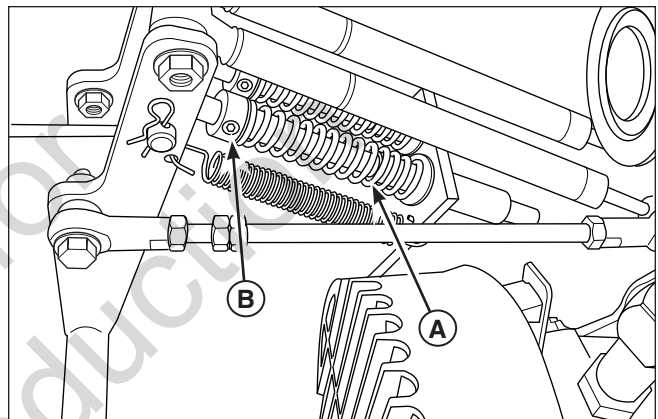

Figure 41. Return to Neutral Adjustment
1. Loosen the set collar (B, Figure 41) locked against the return spring (A).